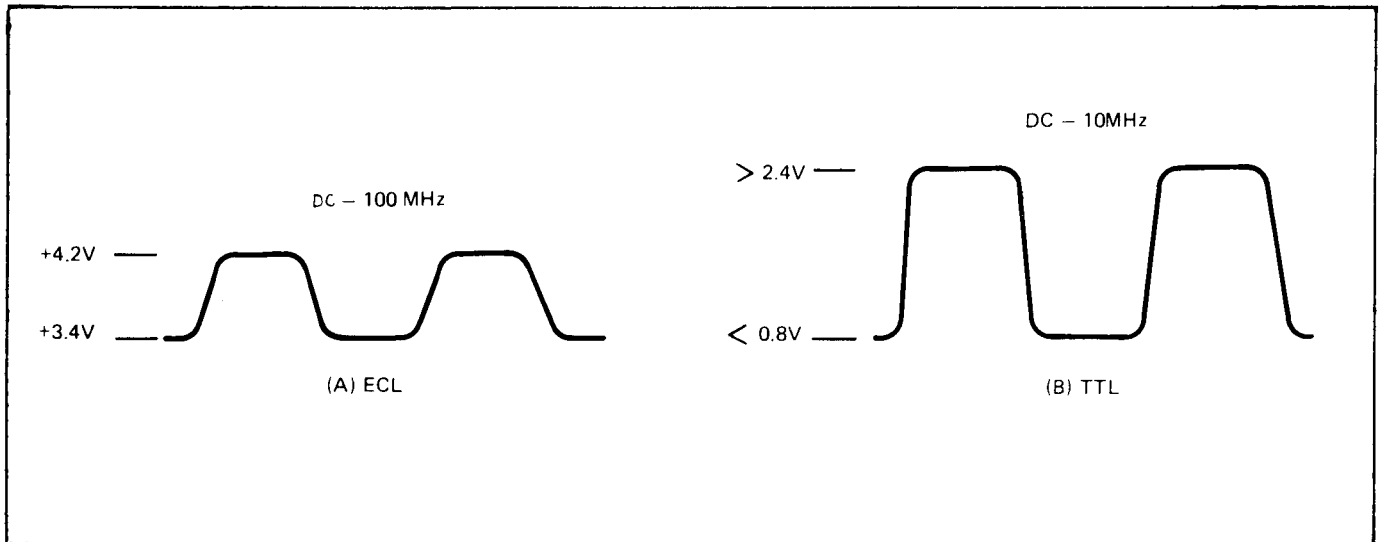

Figure 2.7 - Logic Levels
2.4.7.2 Figure 2.7 shows the high and low voltage levels of the two types of logic used in the counter. The ECL type logic is mainly used in the measurement paths of the counter where higher frequencies are encountered. The TTL logic is mainly used in control type circuits where the frequency is normally below 10 MHz.